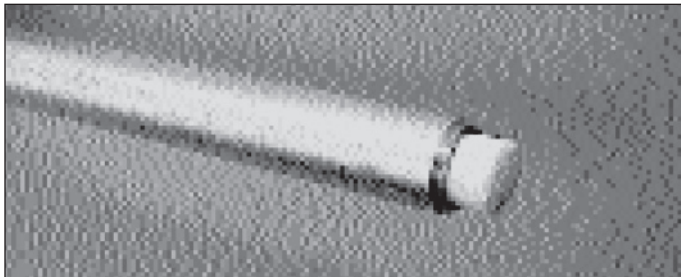

Figure 5-14.
11. Is the gas filter in the gas inlet pipe dirty? Replace if needed. (See Figure 5-14)